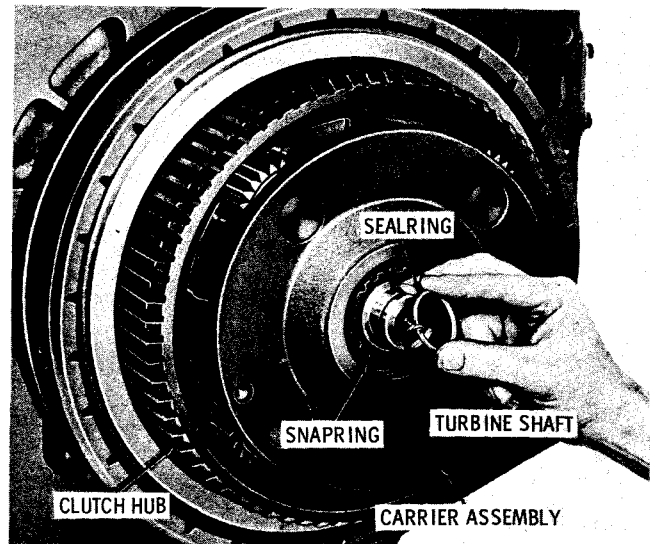

Fig. 5-48. Removing hook-type sealing from rear end of turbine shaft (CT, CLT, VCLT) S1593
(2) At the rear of the converter housing, remove the hook-type sealing from the rear of the turbine shaft (fig. 5-48). Remove the snapping that retains the splitter planetary carrier assembly.